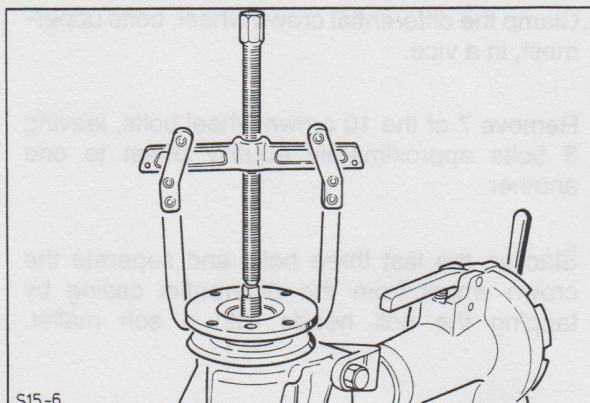

Fig. 32. Pull off drive flange.
- Using a suitable puller, remove the drive flange from the pinion, Fig. 32.